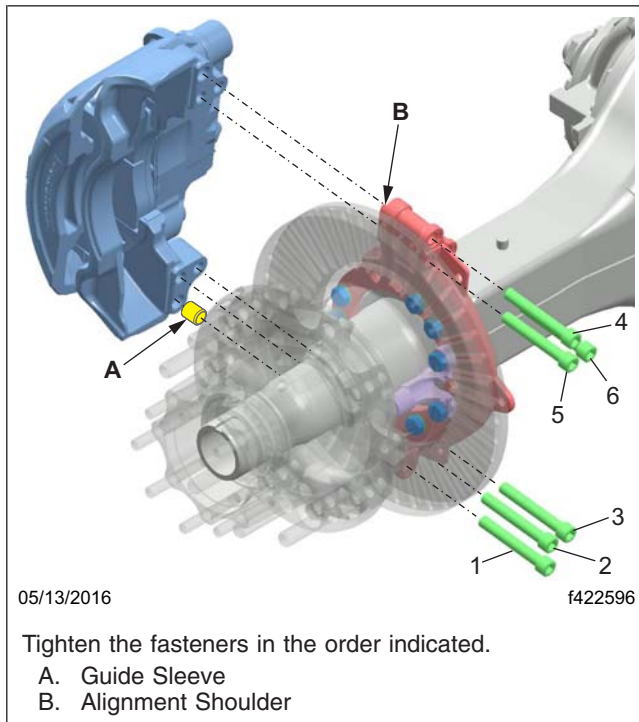

Fig. 7, Tightening Pattern
- 22.2 Tighten the carrier mounting bolts in two steps, using the pattern shown in Fig. 7. Initially tighten all six bolts 40 to 50 lbf-ft (54 to 68 N·m). Perform the final torque spec of 180 to 200 lbf-ft (244 to 271 N·m).